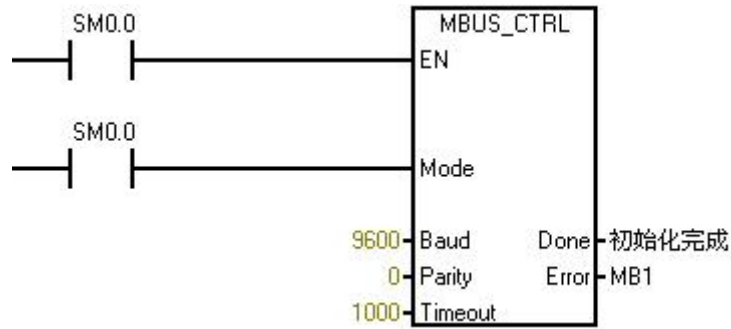

Figure F3-2 Initializing MODBUS
**Step 2: Use MBUS\_CTRL initializes the MODBUS function of the PLC. As shown in Figure F3-2:**